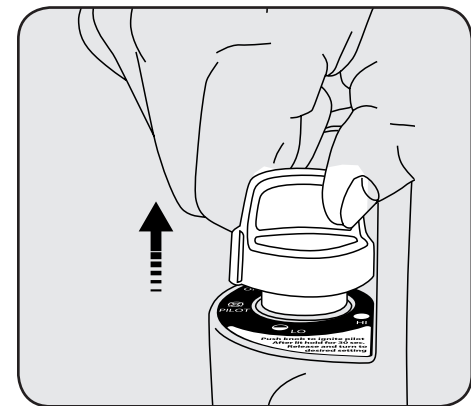

Figure 4
6. After pilot lights, hold down for 30 -60 seconds and then release knob. Knob should return to fully extended position. See Figure 4.
- After pilot lights, hold down for 30-60 seconds and then release knob. Knob should return to fully extended position. See Figure 4 on previous page. The pilot should remain lit.